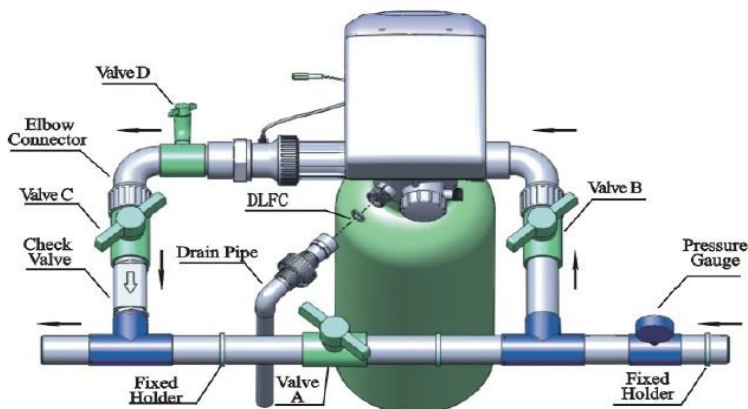

Figure1-3
③ Pipeline connection
- Install a pressure gauge in water inlet as figure 1-3.